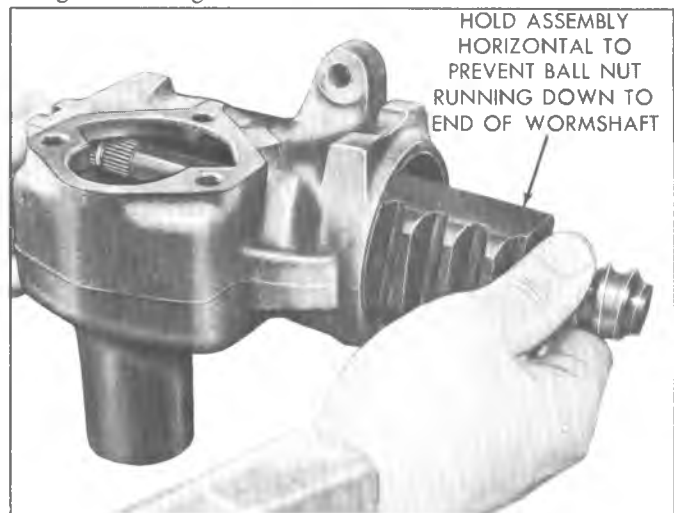

Fig. 6-Removing the Wormshaft and Ball Nut-Typical
6. Draw the wormshaft and ball nut assembly from the housing (fig. 6).